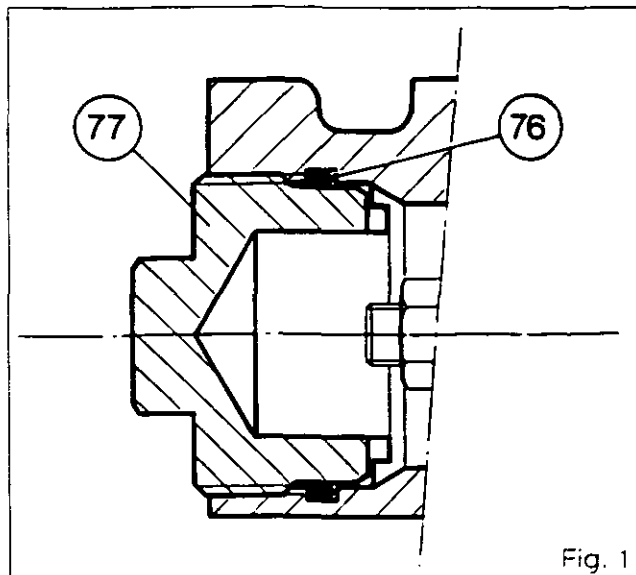

Fig. 1
1. Unscrew plug (77).
2. Remove and discard O-ring (76) (Fig.1).